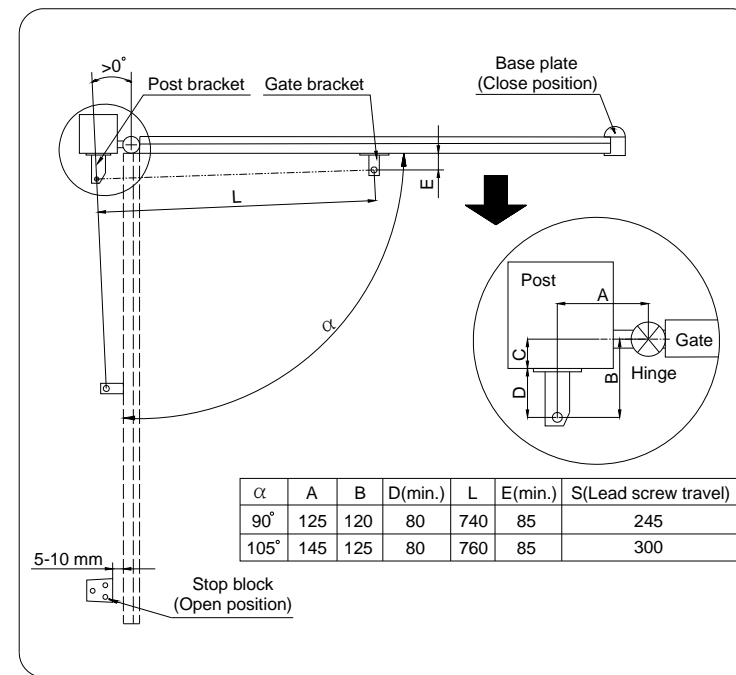
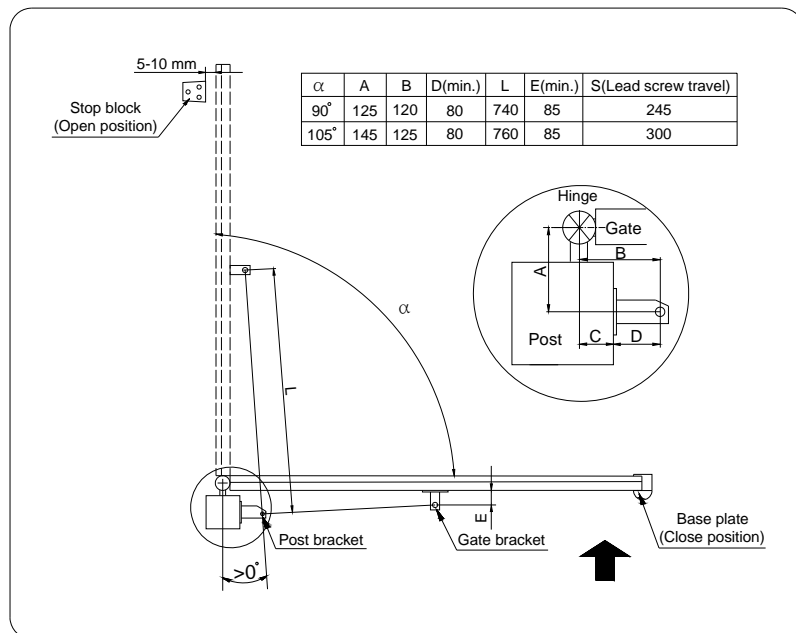

Fig.1 Pull to open mounting geometry
Fig.2 Push to open mounting geometry
- After the gate reaches the desired angle ( $90^\circ$  or  $105^\circ$ ), ensure 5-10mm space exists between the gate and stop block. See Fig.1 or Fig.2. This margin is required to prevent the gate from bumping on the stop block.